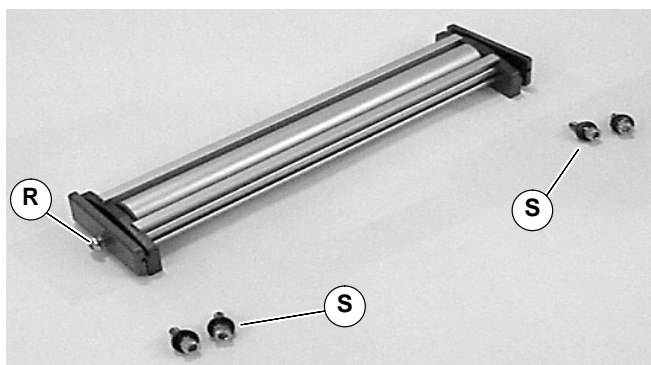

Figure 11
2. Assemble components (Figure 11). Loosen, do not remove, bracket screws (R). Remove mounting screws and washers (S).